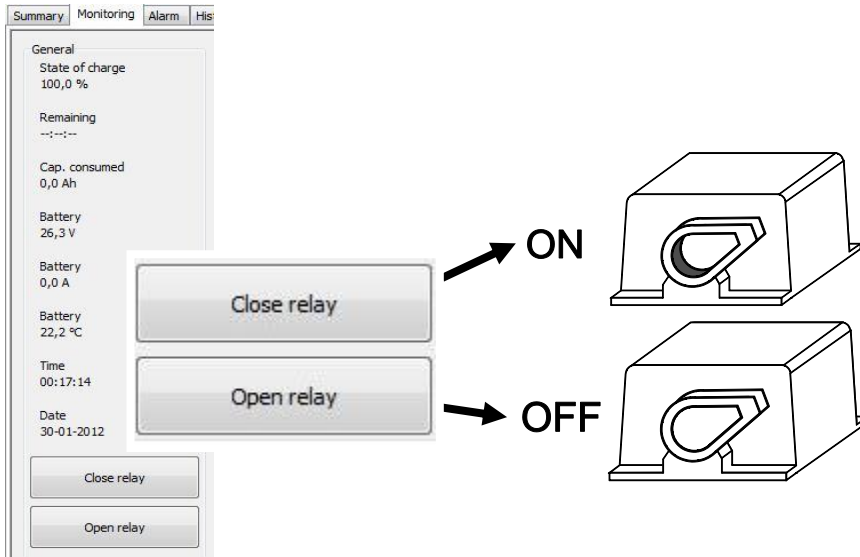

Figure 3-2: Buttons for closing and opening the relay
- 2 Enter on the MasterBus control panel the MasterBus MLi Ultra monitoring page. Operate the Close Relay button at the bottom of this page. If the relay is closed (On), the knob position must be shifted inwards. See figure 3-2.